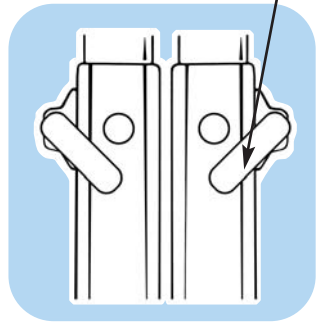

Figure C-1
2. With the ladder in the storage position and while holding the inner ladder assembly firmly in place, pull the four Lock Tab Assemblies out of the rung holes of the inner ladder and rest them on the side of the outer ladder rail (See figures C-1).